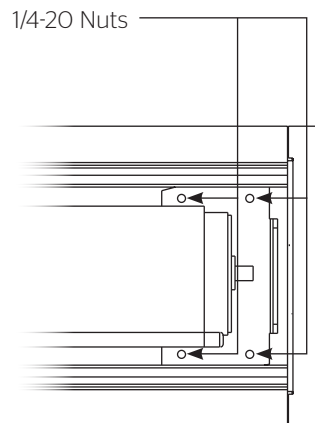

Figure 2
3. To install screen and roller assembly, loosen (but do not remove) four 1/4-20 nuts securing pin end bracket (opposite end from the junction box) to the case housing. Slide the pin end bracket towards the end of the case (Figure 2).
5. Moving to the pin end of the case, slide the pin end bracket until the hole fits securely over the pin. Tighten the 1/4-20 nuts on the pin end bracket securely (Figure 2).